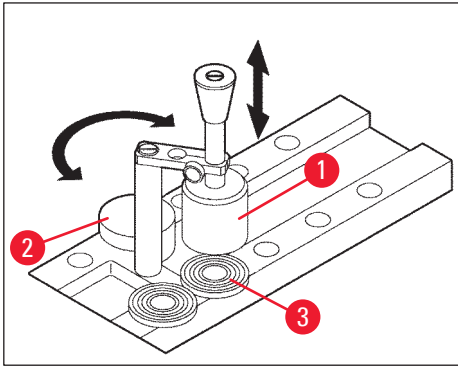

Fig. 14
4. Place specimen disc with specimen into one of the 10 openings in the quick-freeze shelf ( $\rightarrow$  "Fig. 14") and freeze.